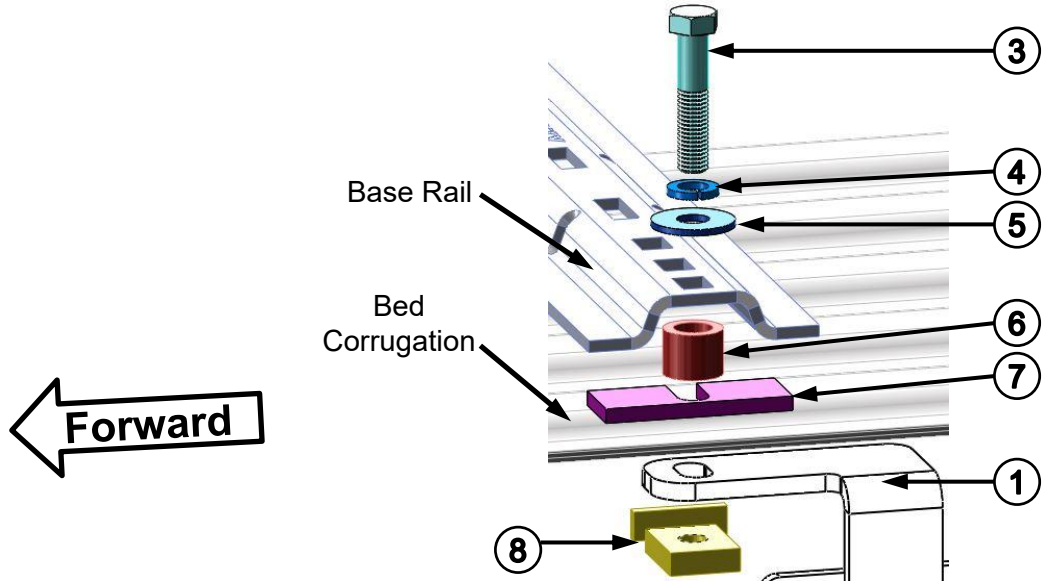

Figure:4 **Driver Side Front Shown**
- Reposition the bed rails in the bed so that the square 5/8" hole in the end of each rail is lined up over the drilled holes. Place a 1" spacer tube (#6) under ends of each bed rail, in line with the drilled holes as shown in fig.4.